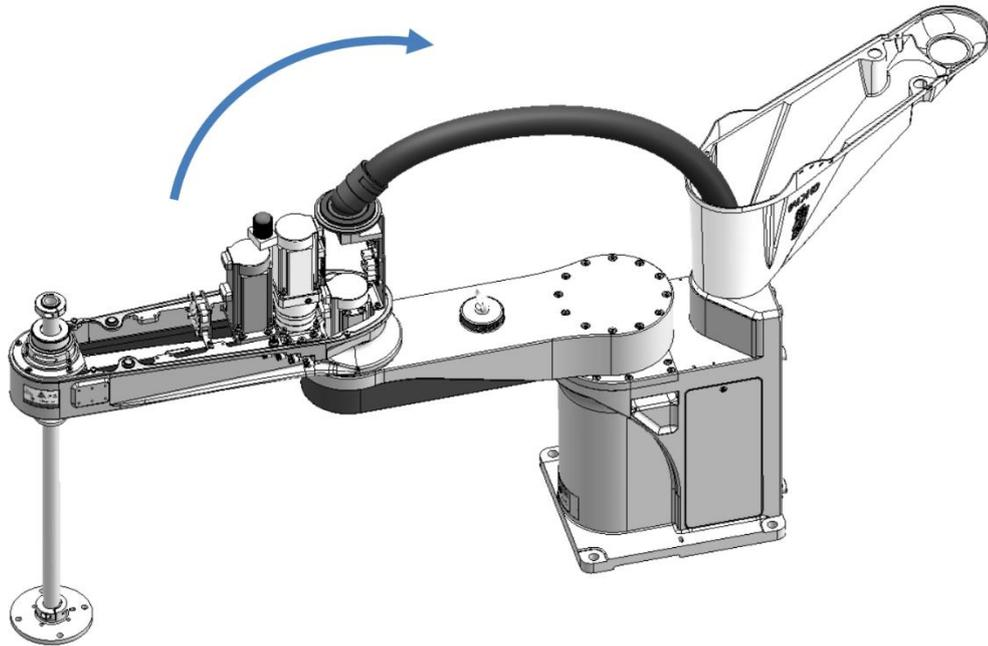

Figure 4-7 Lift the cover
Step 3 Lift the robot cover as shown in Figure 4-7.